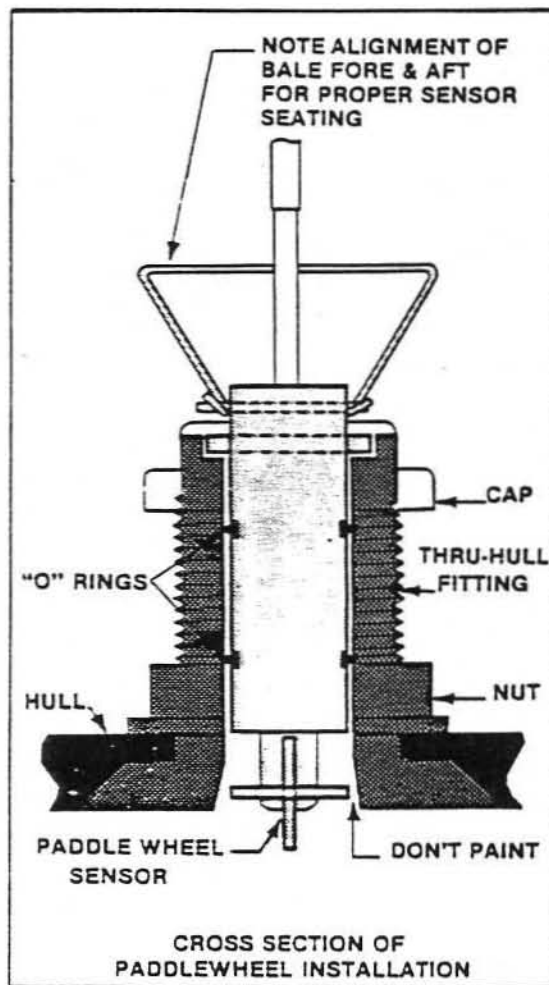

Figure 3.5
10. Insert the transducer into the thru-hull fitting. The wire handle should be aligned fore and aft (see Figure 3.5). Make sure it clicks down into the notch on the thru-hull fitting. When properly installed, the transducer body will not rotate.